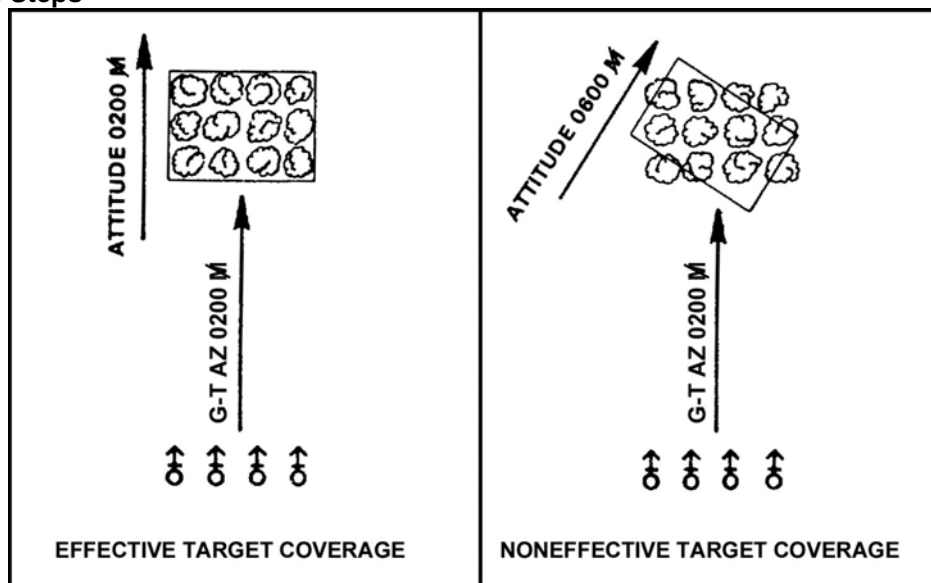

Figure 2. Target Coverage
- c. To effectively engage a target using searching fire (Figure 2), the attitude of the target cannot be more than 100 mils different than the azimuth of the gun-target line.